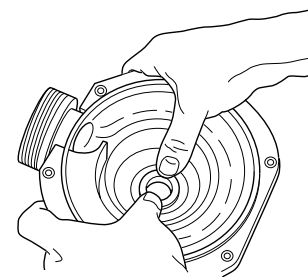

Figure 17
3. Press stationary half of seal into seal plate (Key No. 9) using finger pressure only (see Figure 17). Make sure seal is firmly and evenly seated.